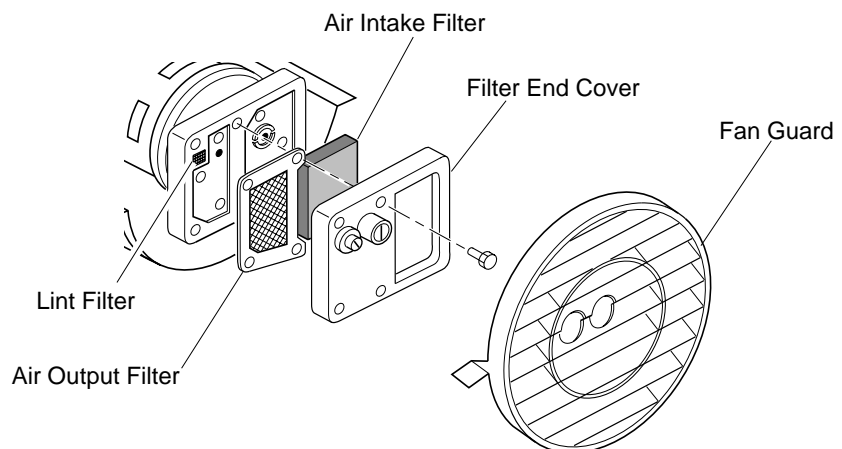
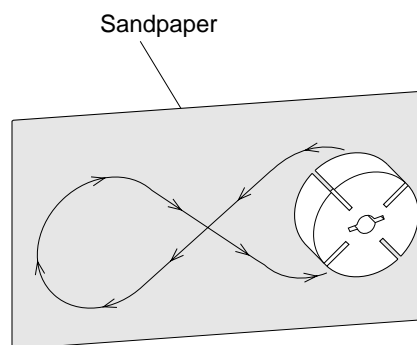

Figure 8 - Air Output, Air Intake, and Lint Filters
Figure 18 - Sanding Rotor
14. Place fine grade sandpaper (600 grit) on flat surface. Sand rotor lightly in "figure 8" motion four times (see Figure 18).